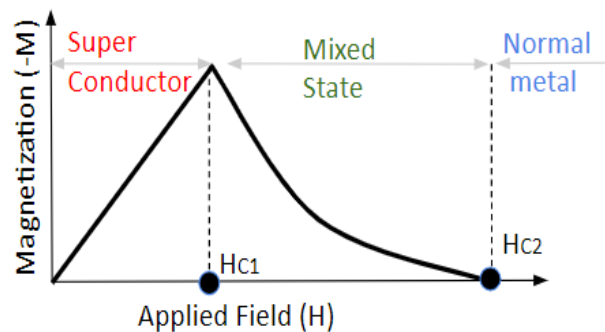

Figure 7d: Magnetization Vs Field (Type-II)
- As shown in *Figure 7d* the magnetization of Type-II superconductor increases with the increase in applied magnetic field till the lower critical field H_{C1} .